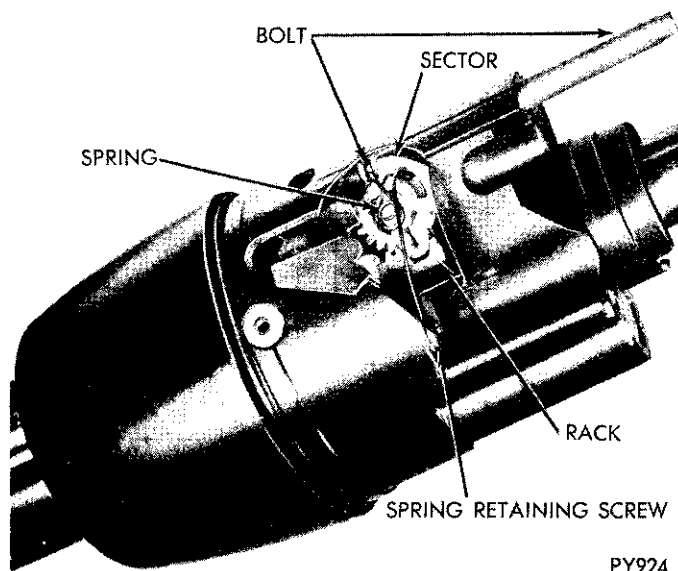

Fig. 11—Sector and Bolt Spring
(1) Remove tilt lever opening shield and turn signal lever opening shield from housing.
(2) Remove lock bolt spring by removing spring retaining screw and moving spring clockwise to remove from bolt (Fig. 11).
(3) Remove snap ring from sector drive shaft. With small punch, lightly tap drive shaft from sector. Remove drive shaft, washer, sector and bolt. Remove rack and rack spring.
(4) Remove tilt release lever pin with punch and
(1) Install bearings in bearing housing, if removed.
(2) Install lock shoe springs, lock shoes and shoe pin in bearing housing. Use approximately .180 rod to line up shoes for pin installation.
(3) Install spring, release lever and pin in bearing housing. (Again, relieve load on release lever as in step (4) of disassembly procedure.)
(4) Install washer and drive shaft in housing. Lightly tap sector onto the shaft far enough to install snap ring.
(5) Install lock bolt and engage with sector cam surface.
(6) Install rack and spring. Block tooth on rack to engage block tooth on sector. Install external tilt release lever.
(7) Install bolt spring and spring retaining screw. Tighten to 35 inch-pounds (Fig. 11).